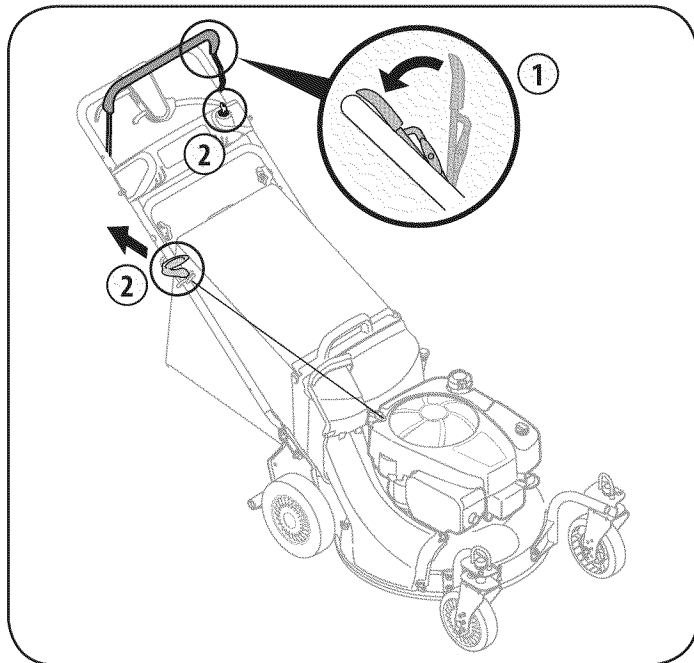

Figure 11
1. Standing behind the mower, squeeze the blade control handle against upper handle. See Figure 11.